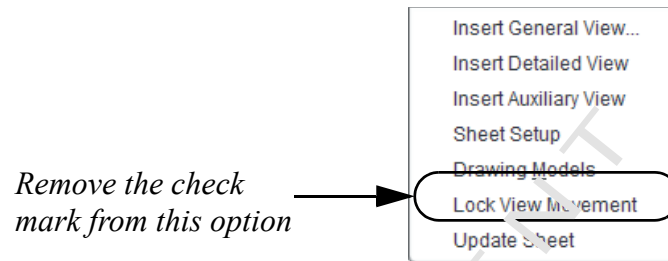

Figure 1–78
1. By default, all views are locked. To unlock them, right-click in the view and clear **Lock view movement**, as shown in Figure 1–78.